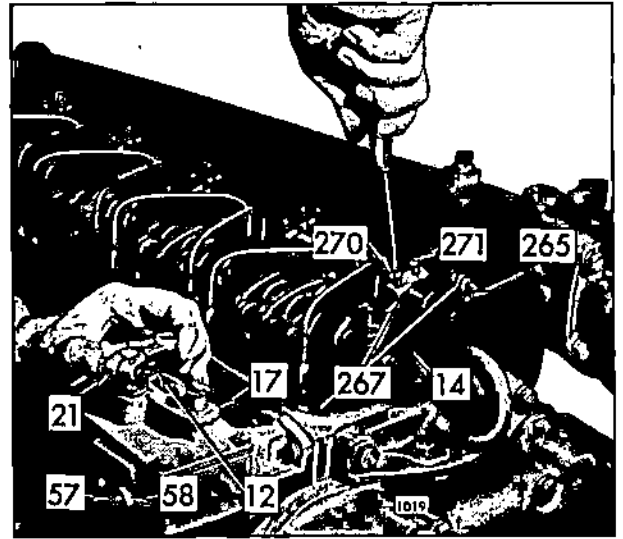

Fig. 7 - Positioning No. 1 Injector Rack Control Lever
1. Disconnect any linkage attached to the speed control lever (21), Fig. 7.
- Loosen the lock nut (58) and back out the buffer screw approximately 5/8".
- Loosen all of the inner (270) and outer (271) injector rack control lever adjusting screws. Be sure all of the control levers are free on the injector control tube.
- Move the governor speed control lever to the maximum speed position as shown in Fig. 7. Hold the lever in that position with light finger pressure. Turn the inner adjusting screw on the No. 1 injector rack control lever down until a slight movement of the control tube is observed or a step up in effort is noted. This will place the No. 1 injector rack in the full-fuel position. Turn the outer adjusting screw down until it bottoms lightly on the injector control tube. Then, alternately tighten both the inner and outer adjusting screws.